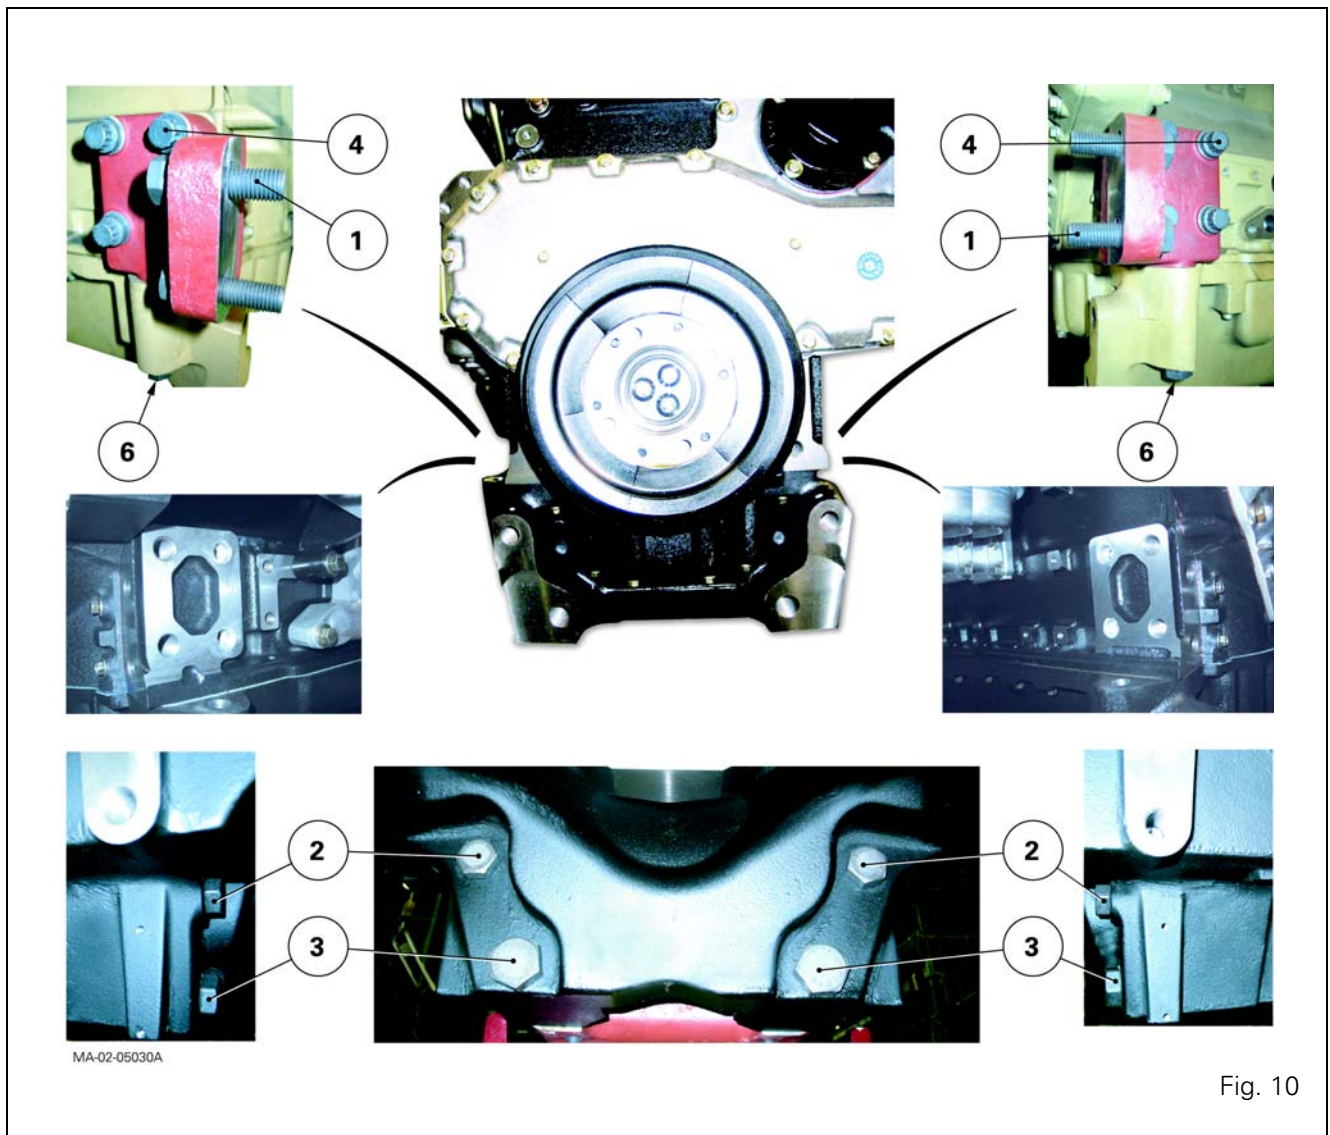

Fig. 10
23. Remove lateral screws (1) (Fig. 10).
24. With the help of an operator, loosen the screws (2)(3) (Fig.10), simultaneously moving the frame away from the engine.